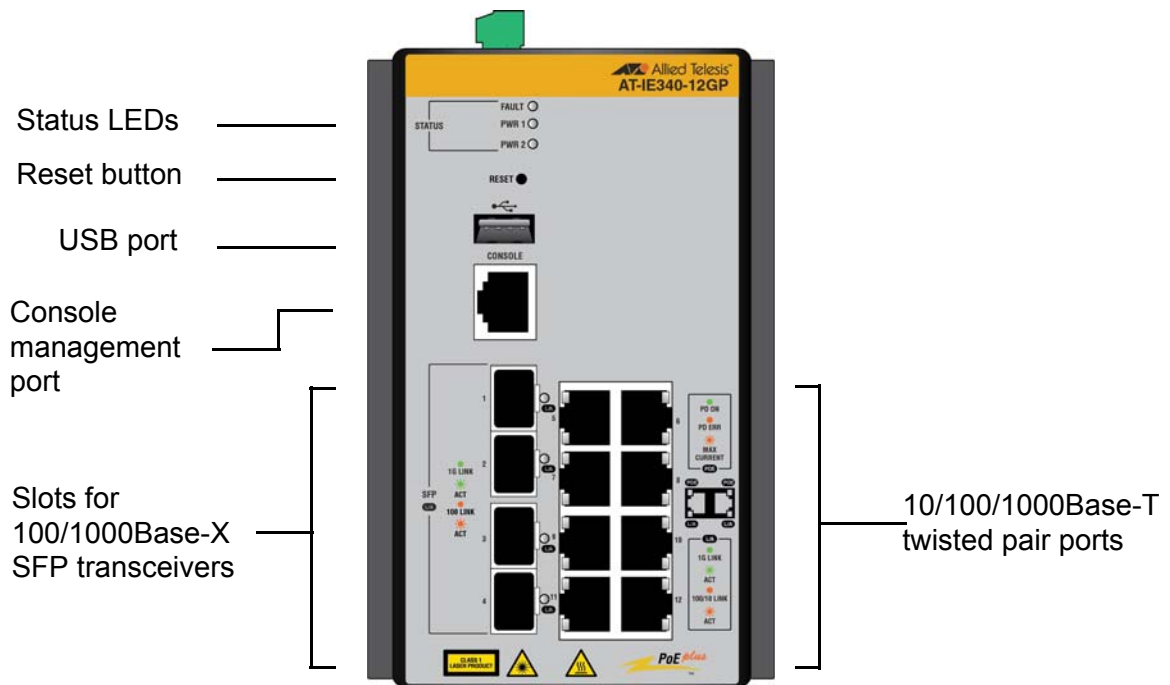

Figure 1. Front Panel of the IE340-12GP Switch
**IE340-12GP** The front panel of the IE340-12GP switch is shown in Figure 1.